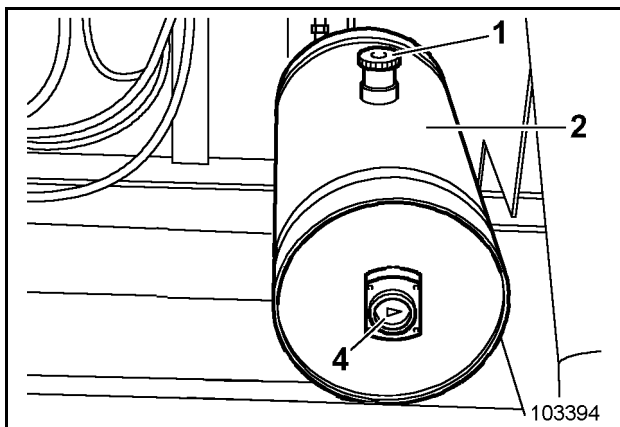

Fig. 3-24:
- Turn radiator cap (1, Fig. 3-24:) back to the first notch.
After filling in cooling liquid allow the engines to run for short period to eliminate air voids before topping up with cooling liquid until the cooling liquid level is between the "FULL" and the "LOW" mark on the level indicator (4, Fig. 3-24:).